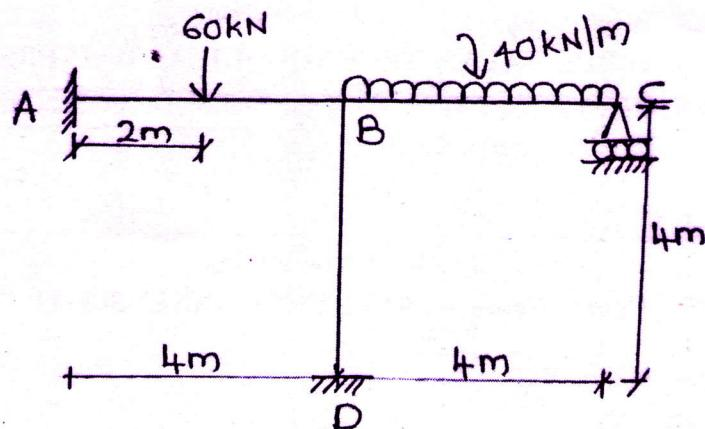

Fig. 3
- 3 a) Analyse the frame shown in Fig. 3 using slope deflection method and draw the bending moment diagram. EI is same for all members. (15)